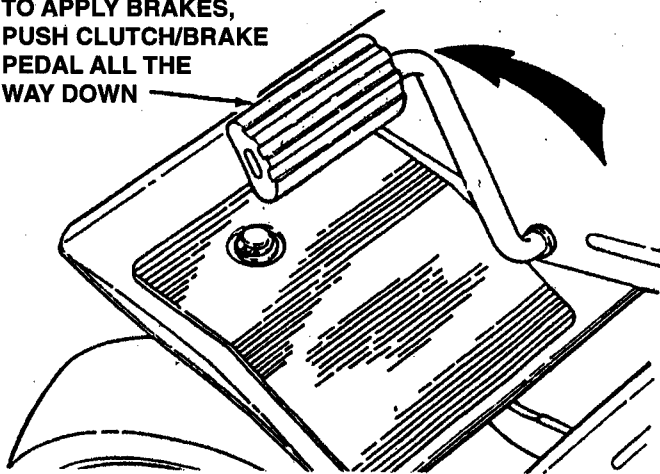

FIGURE 2.12
1. Stop motion of Rear Engine Rider by pushing Clutch/Brake Pedal all the way "DOWN" to apply brake. See Figure 2.12.